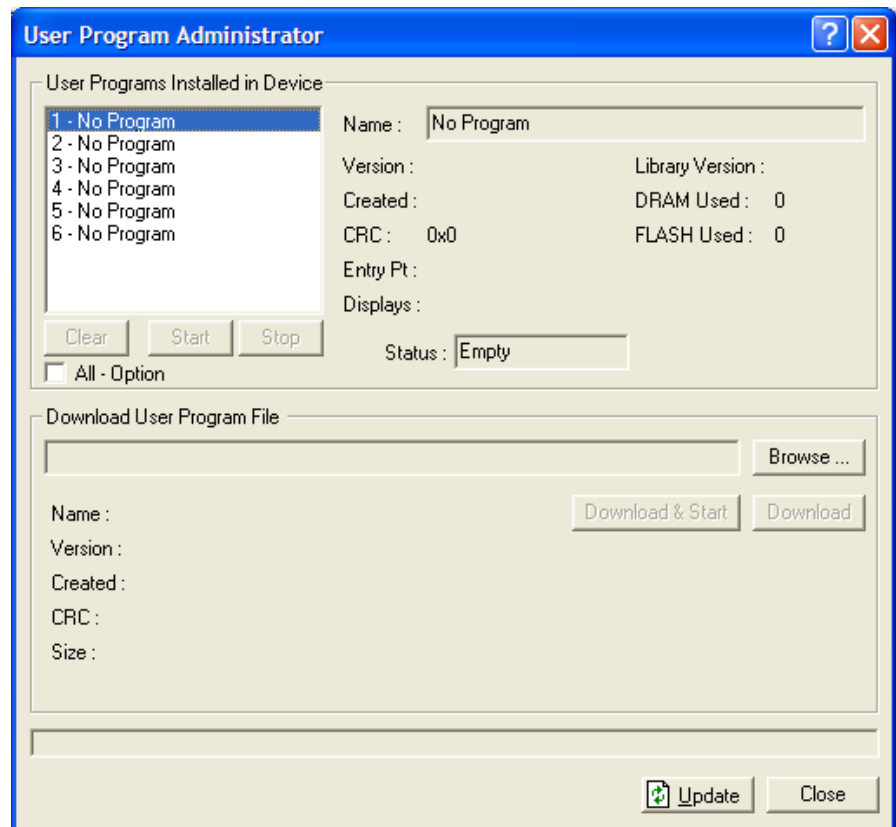

Figure 2-3. User Program Administrator
3. Select **Utilities > User Program Administrator** from the ROCLINK menu bar. The User Program Administrator screen displays (see *Figure 2-3*):